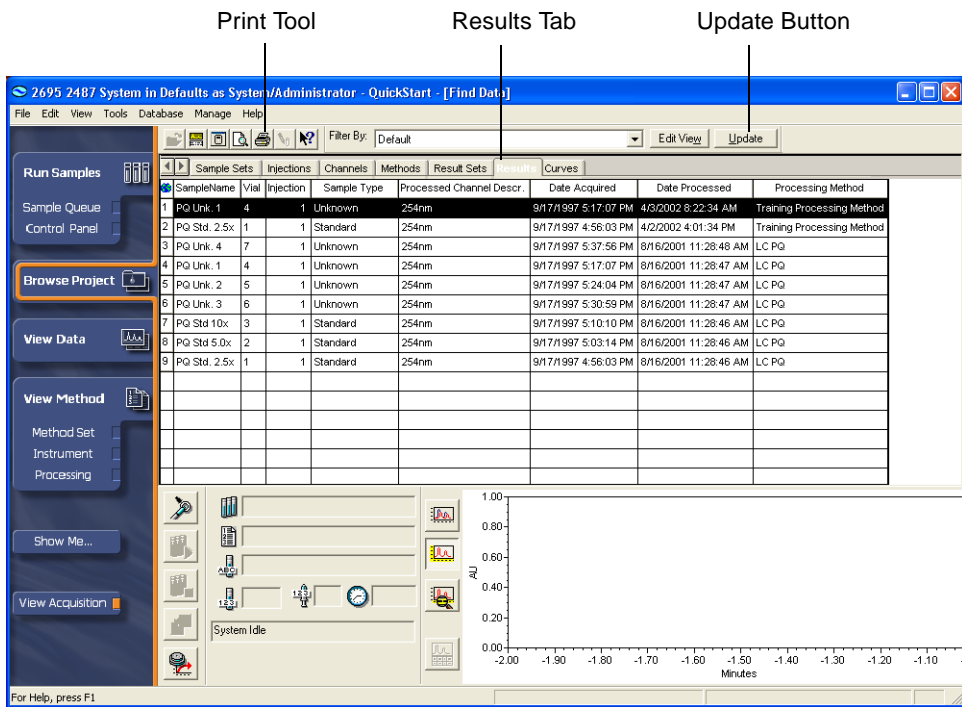

Figure 4-37 Browse Project, Results View Tab
3. Click **Browse Project** on the navigation bar. The Browse Project window appears (Figure 4-37).
4. Click the **Results** tab, then click the **Update** button to refresh the view. Select the result you want to print (Figure 4-37).